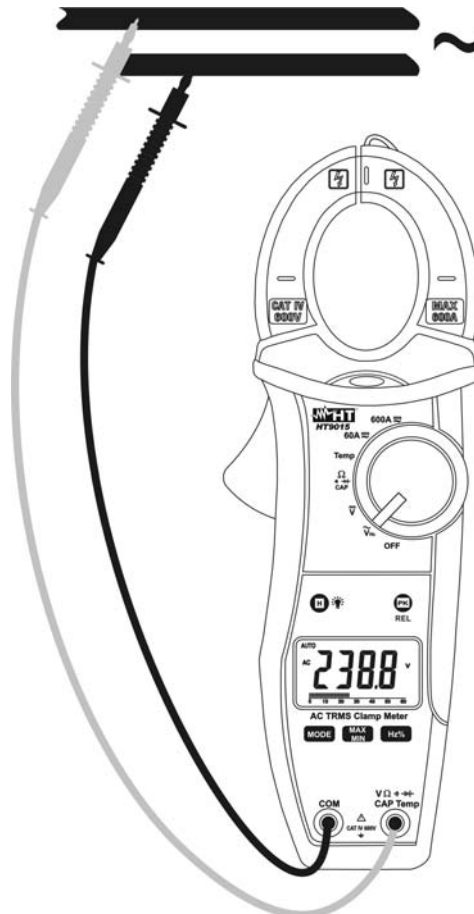

Fig. 3: Taking AC voltage measurements
3. Insert the red test lead plug into **VΩHz%Temp** jack and the black test lead plug into **COM** jack (Fig. 3)